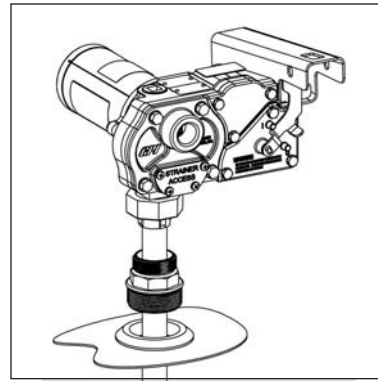

Figure 1
2. Extend the suction pipe to its full length and insert into the tank opening. (Figure 1)